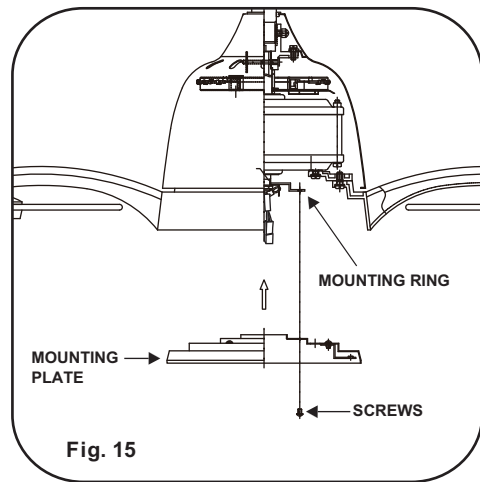

Fig. 15
Step 2. Place the key holes from the mounting plate over the 2 screws previously loosened from the mounting ring, turn mounting plate until it locks in place at the narrow section of the key holes. Secure by tightening the 2 screws previously loosened and the one previously removed. (Fig. 15)